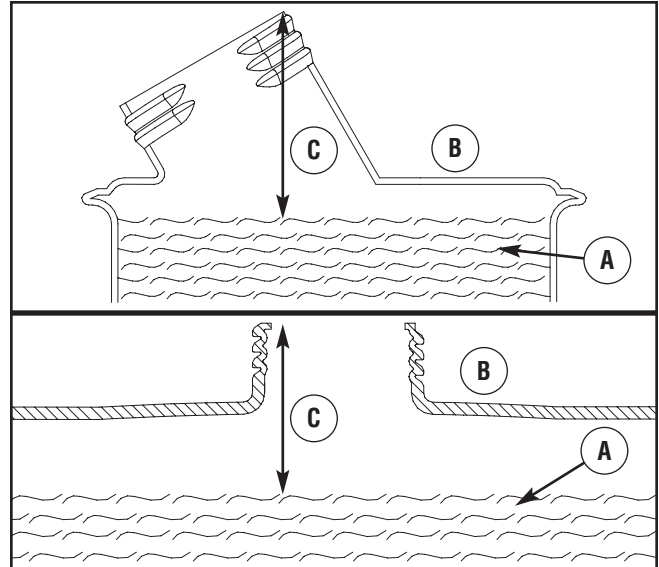

Figure 10 — Filling the Fuel Tank (2 styles shown)
3. Refer to the two illustrations in Figure 10. Slowly add regular unleaded fuel (A) to fuel tank (B). Be careful not to overfill. Allow about 1.5 inch of tank space (C) for fuel expansion.